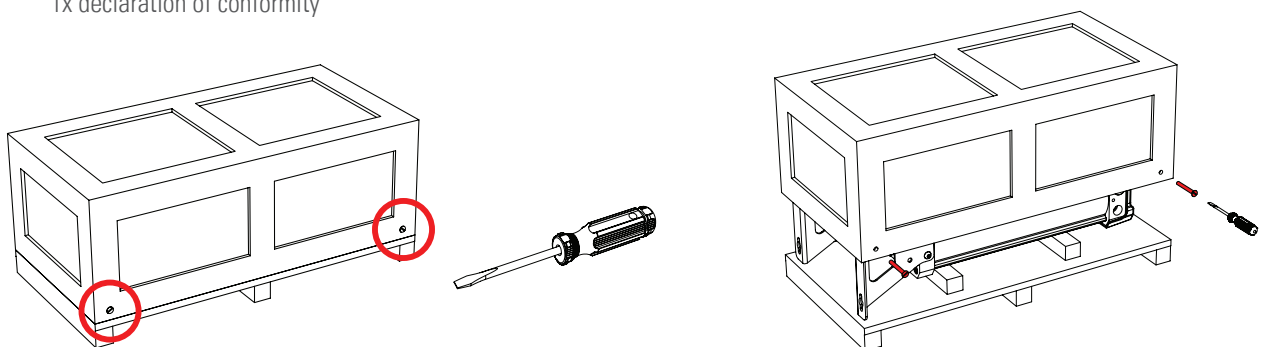

Figure 1: Contents Layout
- Locate the two latches on the top and bottom manifold and pull in the opposite direction to each other to open the shroud, this will then expose the controller (See Fig 1.)